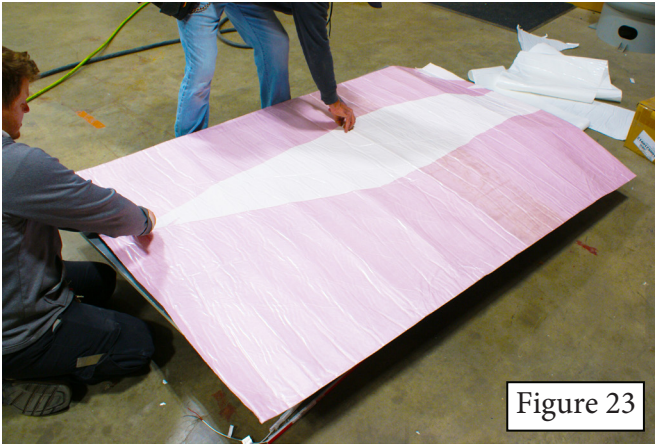

Figure 23
23. Lay new slide-out floor on supports with the interior side facing up. Lay pink insulation (P/N 101851) over the floor and cut about an inch longer than the room. Peel the backing off of the adhesive on the pink insulation and flip the insulation so the adhesive side is down (Figure 23).